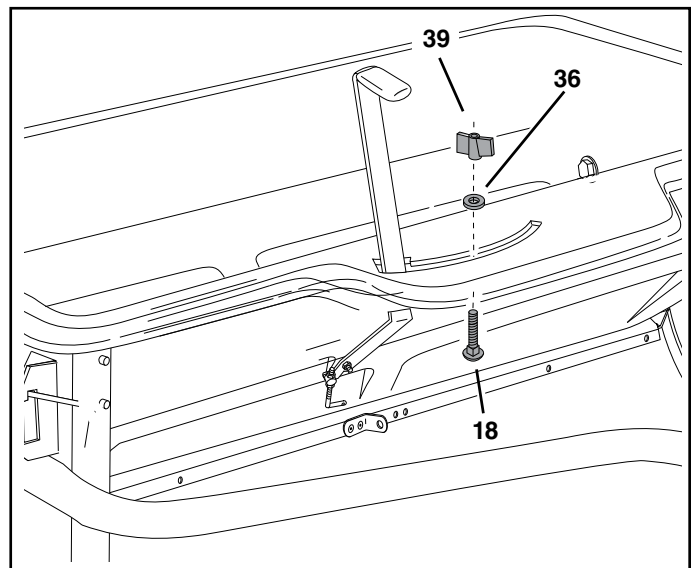

FIGURE 10
- Insert the 5/16" x 1-3/4" carriage bolt (18) up through the slot and secure it with a nylon washer (36) and the plastic wing nut (39). See figure 10.
- Move the lift handle into the locked position as shown in figure 10 and then tip the spreader back to rest on the wheels and the rear of the hopper.